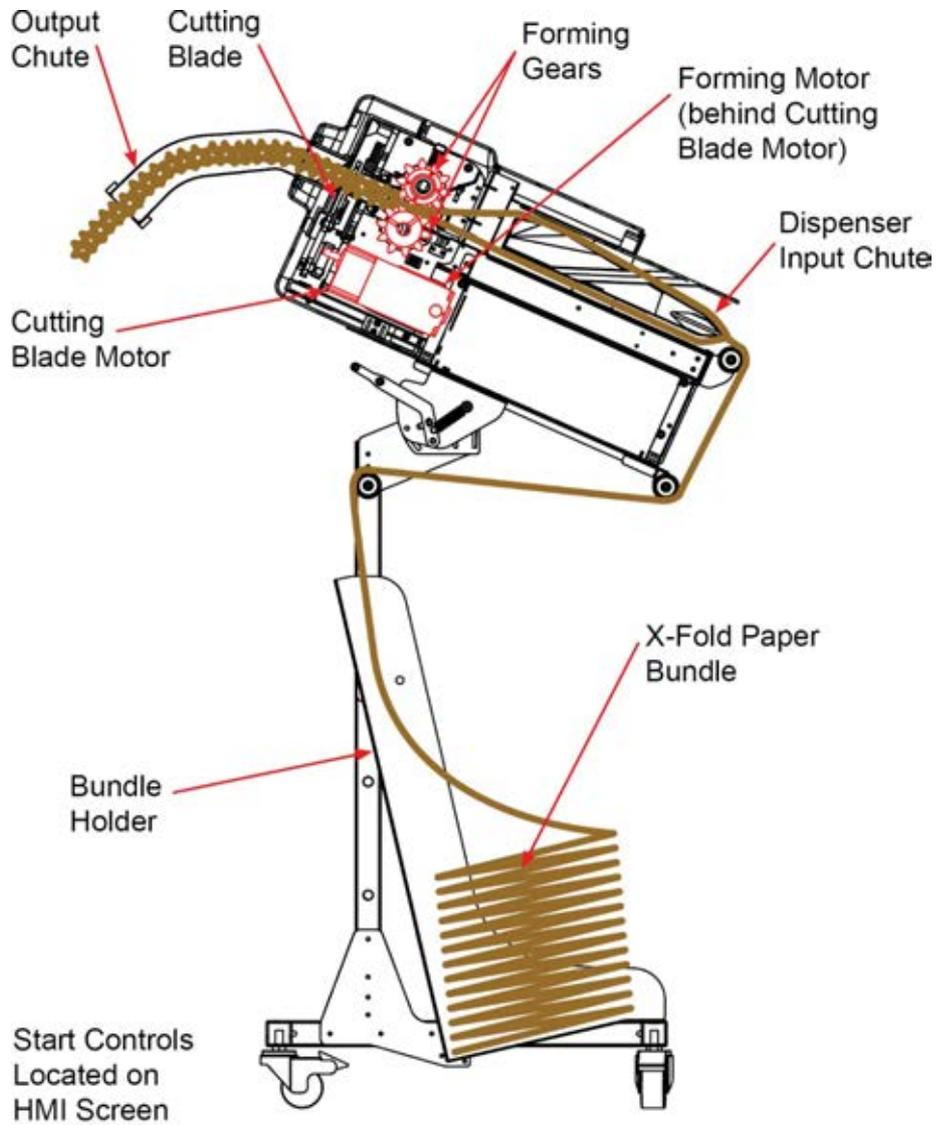

Figure 48 Paper Path
3. On the HMI screen press the Setting Mode Key (refer to Figure 48).